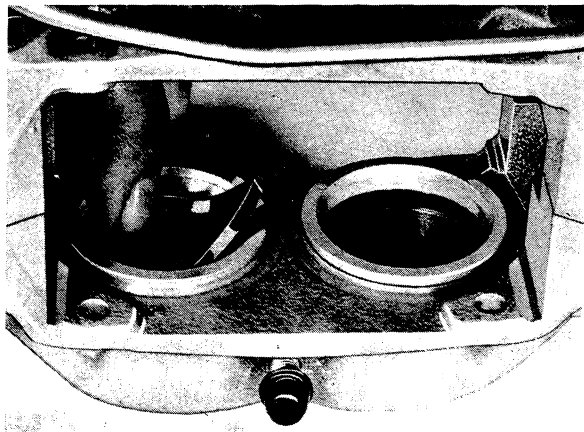

Fig. 5-23. Fitting sealing ring
2. Fit new sealing rings in the cylinders, see Fig. 5-23.
2. Fit the new sealing rings in the cylinder, see Fig. 5-23.